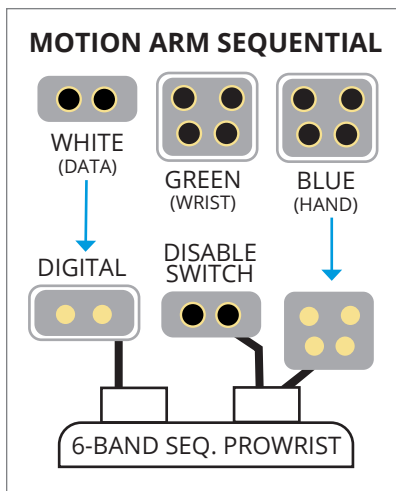

Figure 7. 6-Band ProWrist wiring.
- Attach the Motion Arm wiring to the ProWrist. See Figure 7, 8 or 9 for configurations.